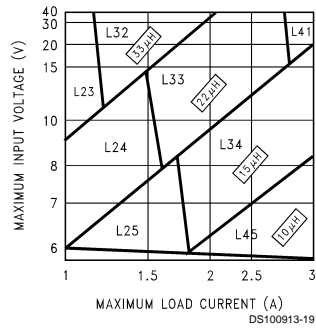
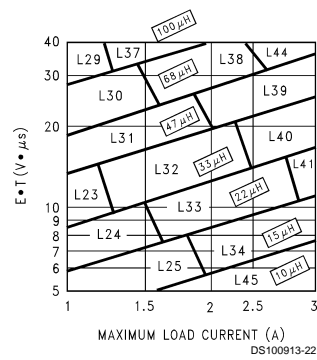

FIGURE 3. LM2673-3.3
FIGURE 6. LM2673-ADJ
Step 3: Determine the inductor required by using one of the four nomographs, *Figure 3* through *Figure 6*. Table 1 provides a specific manufacturer and part number for the inductor.
Step 5: Determine an input capacitor from Table 4 for fixed output voltage applications. Use Table 2 to find the specific capacitor type. For adjustable output circuits select a capacitor from Table 2 with a sufficient working voltage (WV) rating greater than $V_{in\ max}$, and an rms current rating greater than one-half the maximum load current (2 or more capacitors in parallel may be required).
Step 3: Use the nomograph for the 3.3V device, *Figure 3*. The intersection of the 16V horizontal line ($V_{in\ max}$) and the 2.5A vertical line ($I_{load\ max}$) indicates that L33, a 22 μ H inductor, is required.
Step 3: To use the nomograph for the adjustable device, Figure 6, requires a calculation of the inductor Volt•microsecond constant ($E \cdot T$ expressed in $V \cdot \mu\text{s}$) from the following formula:
Using Figure 6, the intersection of 27V• μs horizontally and the 2A vertical line (I_{load} max) indicates that L38, a 68 μH inductor, should be used.
Important Note: When using the adjustable device in low voltage applications (less than 3V output), if the nomograph, Figure 6, selects an inductance of 22 μH or less, Table 6 does not provide an output capacitor solution. With these conditions the number of output capacitors required for stable operation becomes impractical. It is recommended to use either a 33 μH or 47 μH inductor and the output capacitors from Table 6.